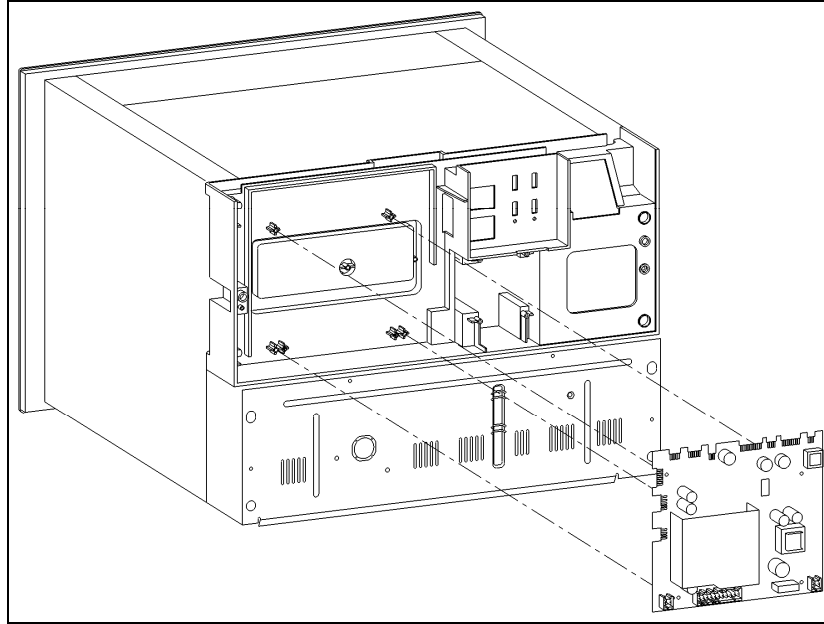

Figure 001-34: EPL Power Electronic (N1-1) Removal
4. Release the electronic's retainers (four) using needlenose pliers. See Figure 001-34.